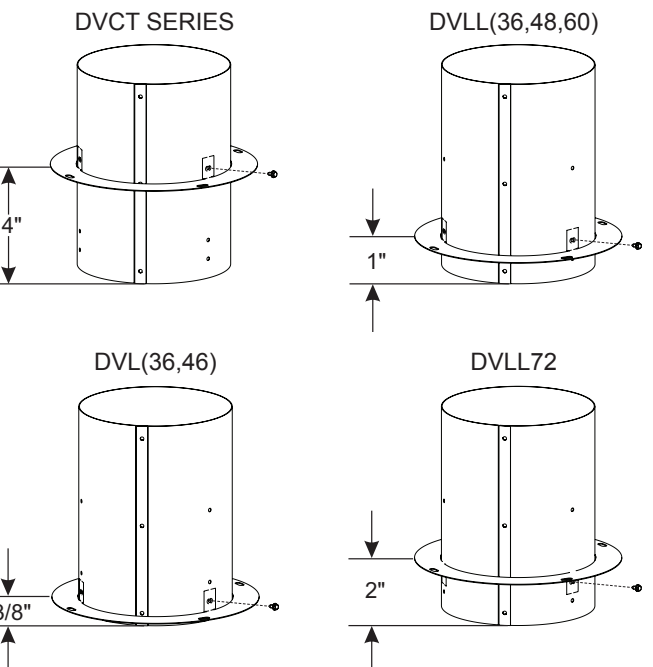

Figure 8
- Assemble (2) 6" diameter X 8" long collars with the collar flanges as shown in **Figure 8**. Attach the flange to the collar with (3) # 10 X 1/2" screws using the proper hole locations based on the particular fireplace model you have.